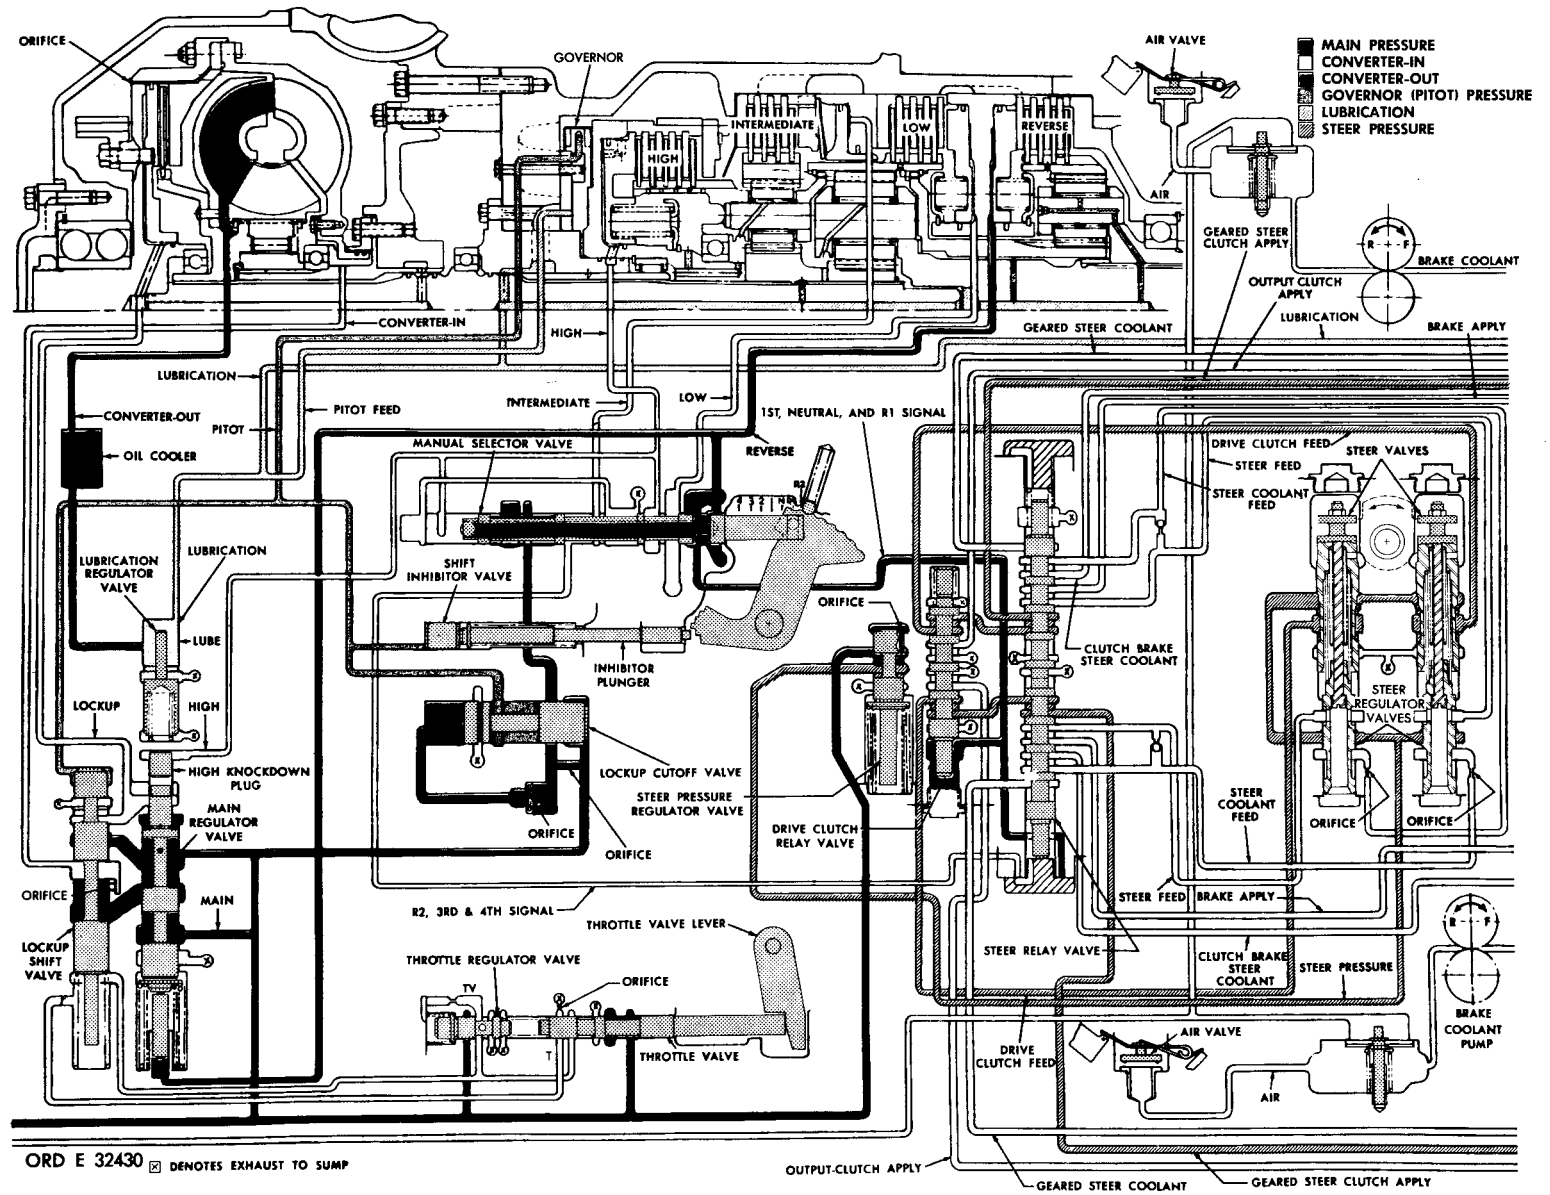

Figure 11. Hydraulic system, reverse 1 gear — schematic view
35. HYDRAULIC SYSTEM FUNCTION - REVERSE 1 GEAR (fig. 11)